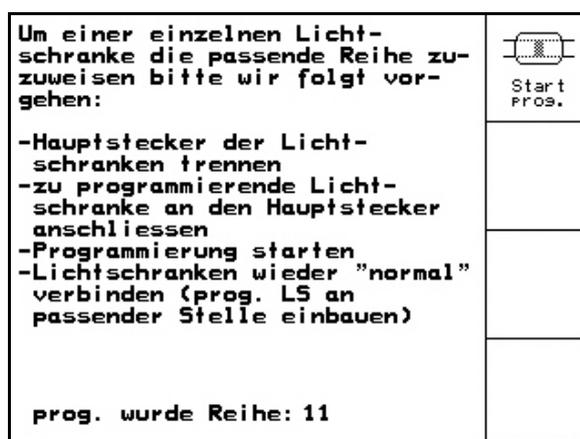

Fig. 84
6. The programmed light barrier is indicated in the respective row (Fig. 84).